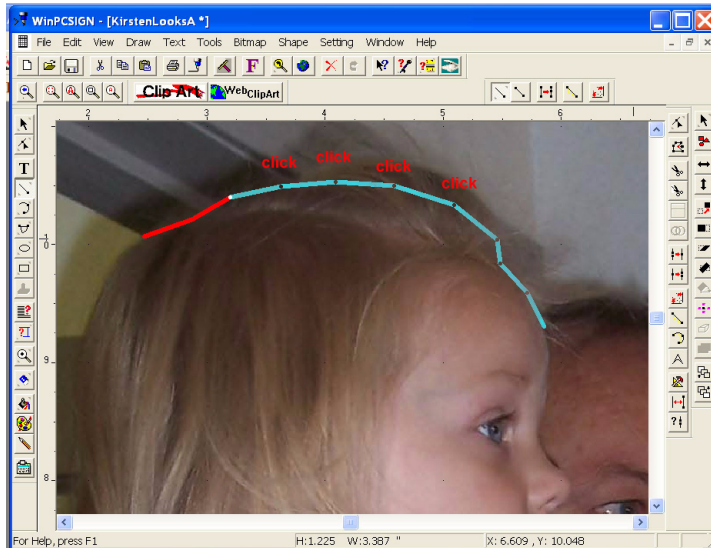

Figure 115
- 3 Click on a starting point and hold the mouse button down as you drag the starting line. See figure 115.